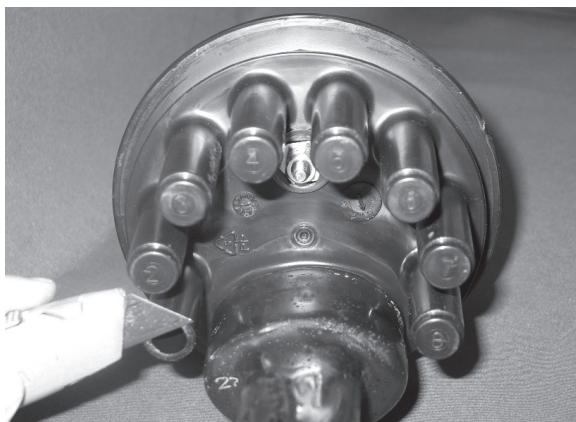

Figure 3
2. Open port with sheath knife (Figure 3).